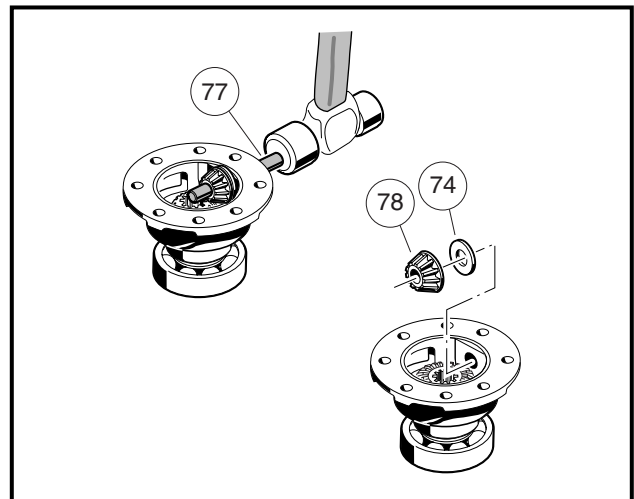

Figure 7-36 Idler Gear
- 1.3. Start the differential pin (77) into the gear carrier case (73) by lightly tapping it in with a plastic or rubber hammer. Before the pin enters the inside of the carrier case, position one thrust plate (74) and idler gear (78) in the case and continue tapping the pin through the thrust plate and idler gear (**Figure 7-36, Page 7-21**).
- 2.3. Start the differential pin (77) into the gear carrier case (87) by lightly tapping it in with a plastic or rubber hammer. Before the pin enters the inside of the carrier case, position one thrust plate (74) and idler gear (78) in the case and continue tapping the pin through the thrust plate and idler gear (**Figure 7-36, Page 7-21**).